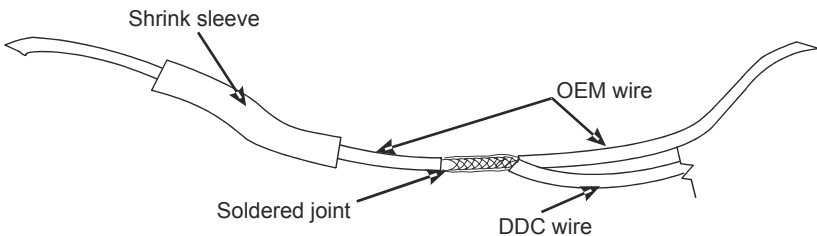

Figure 4.6
- Join the wire and solder the joint using the supplied solder. Slide the shrink sleeve over the joint and heat to seal the connection. The preferred method is shown in Figure 4.6.